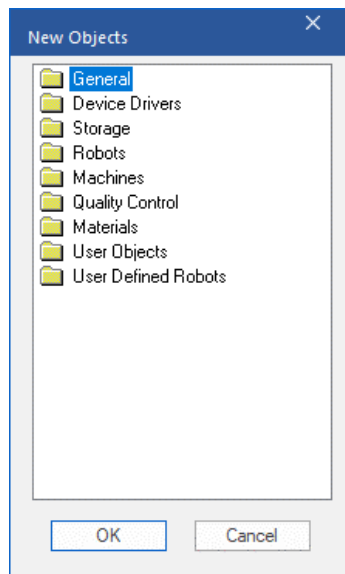

Figure 91: New Objects Dialog Box
1. In the Home ribbon, select **New Object**. The **New Objects** dialog box is displayed as shown Figure 91: New Objects Dialog Box.
1. Select **Edit | New Object**. The New Objects dialog box is displayed as shown in Figure 91: New Objects Dialog Box.
1. From the Home ribbon, select **New Object**. The New Objects dialog box is displayed, as shown in Figure 91: New Objects Dialog Box.